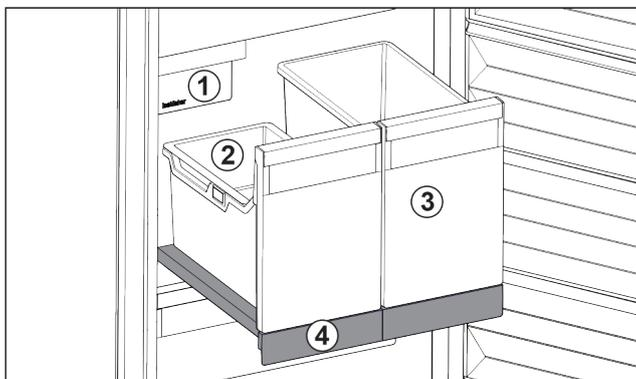

Fig. 27 Pull-out board with IceTower
(2) Hang-on tray for ice cubes
(4) Pull-out board
There are two high (IceTower) containers on the pull-out board. Ice cubes from the IceMaker are collected and stored in the Fig. 27 (2) container. The container Fig. 27 (3) is suitable for storing tall foodstuffs or beverages such as pizzas or alcoholic drinks.